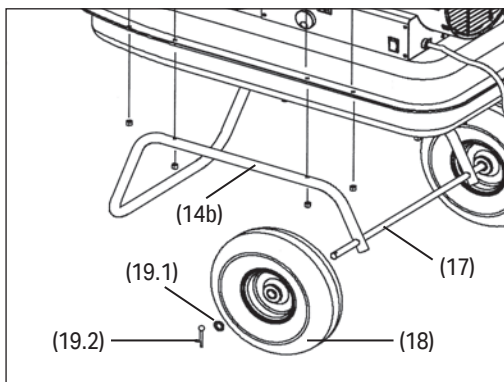

Fig.2
6.2 Handle & Wheel Fitment (32285 & 53926) – Fig. 2 & 3